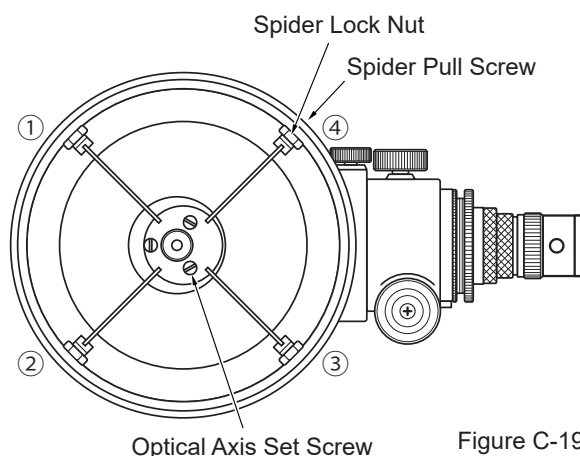
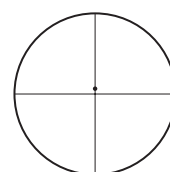

Figure C-19
Figure C-21
3. Next, when you check the position of the secondary mirror mark again, it should be above the intersection of the crosshairs as shown in Fig. C-21. In this case, loosen 1 and 4 in Fig. C-19 and tighten the screws 2 and 3. The secondary mirror mark approaches the intersection of the crosshairs, so when you come to the horizontal line, look up and down again to check the widths, firmly squeeze the spider pull screw, and set the lock nut with a spanner. Perform adjustments as necessary until it becomes as shown in Fig. C-16.